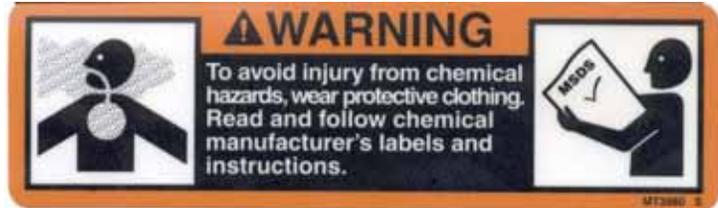

Figure 1: Chemical Warning Decal(# DEMA3980)
- ◆ A chemical warning decal and an owner's manual warning decal are located on the applicator's tank. Be aware of their location. See Figure 1 and Figure 2 on page 2. Always replace any warning decals that aren't legible or are missing.